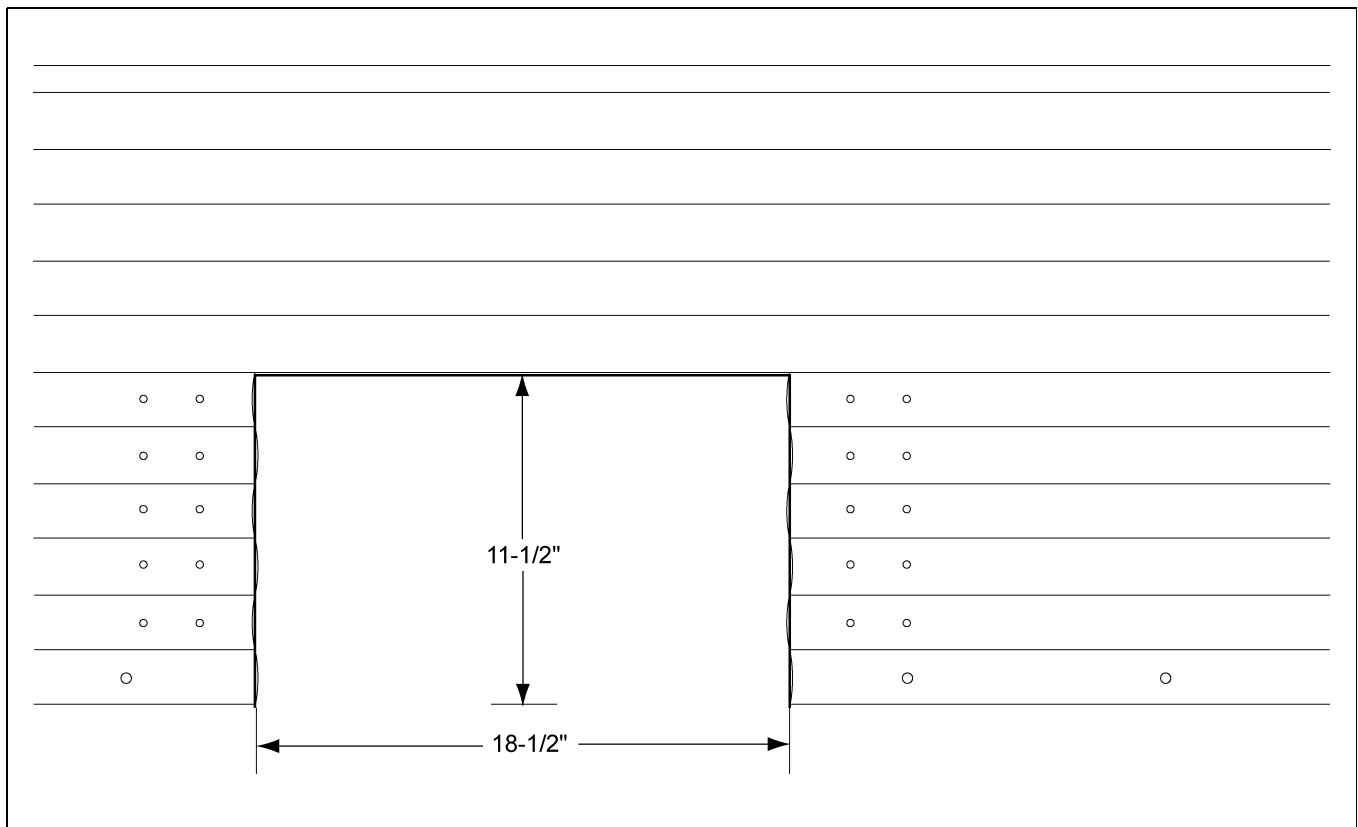

Figure 1
(See Figure 1.)
3. Cut out the side wall sheet and base angle, and field drill holes of diameter 7/16". (See Figure 1.)